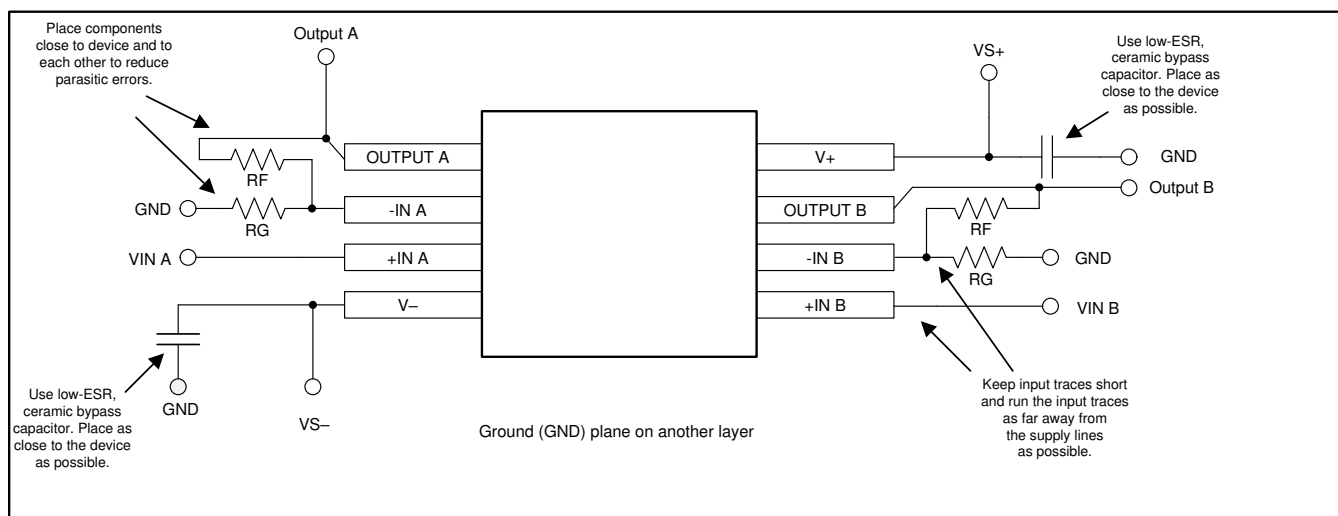

FIG 50. Operational Amplifier Board Layout for Noninverting Configuration
- Place the external components as close to the device as possible. As shown in Figure 50, keeping RF and RG close to the inverting input minimizes parasitic capacitance.